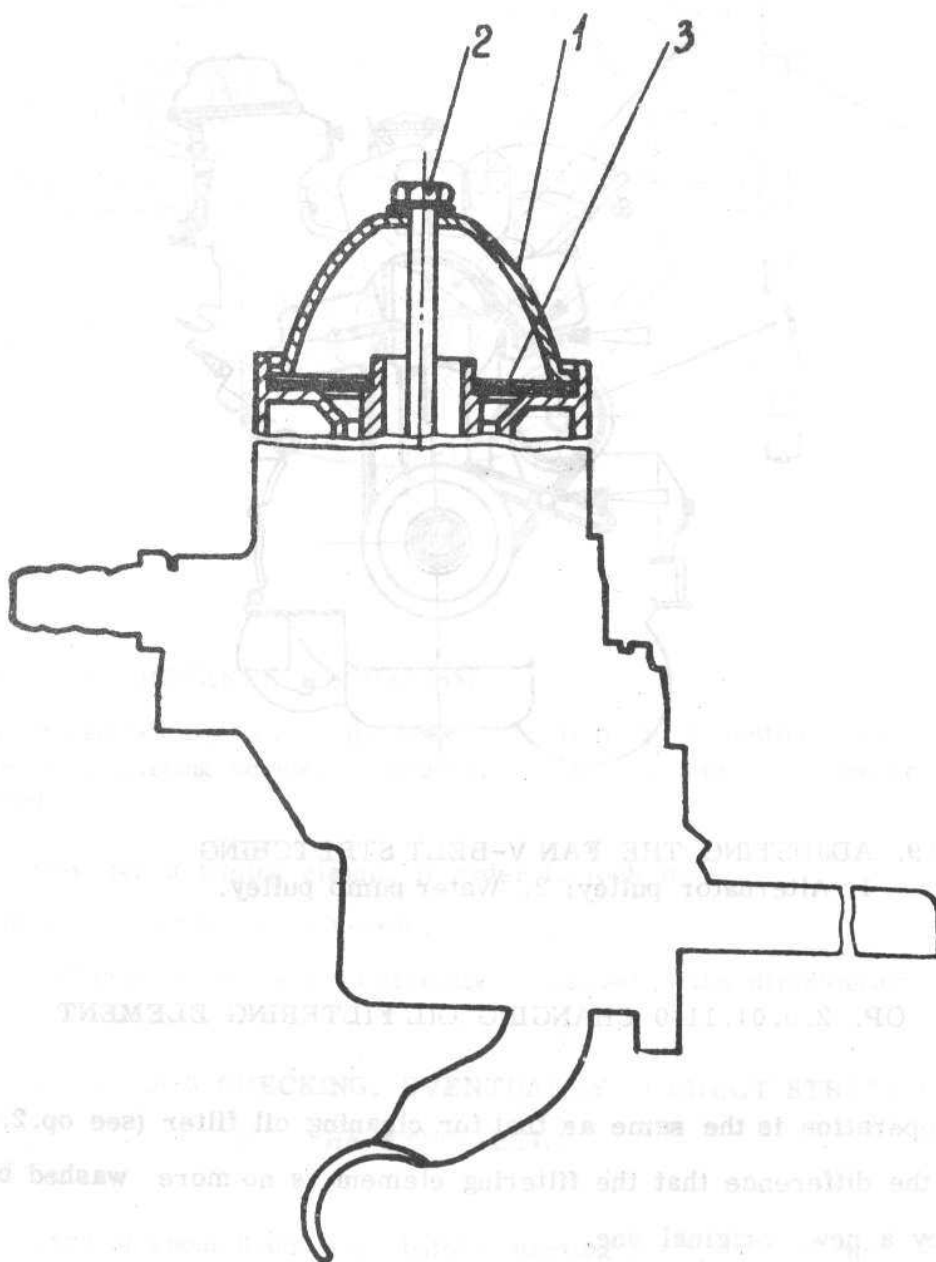

Fig.2.20. FUEL PUMP
- Unscrew bolt (2), fastening filter cover (3) (see fig.2.20), and remove successively: pump filter cover, sealing gasket and filtering strainer (3).